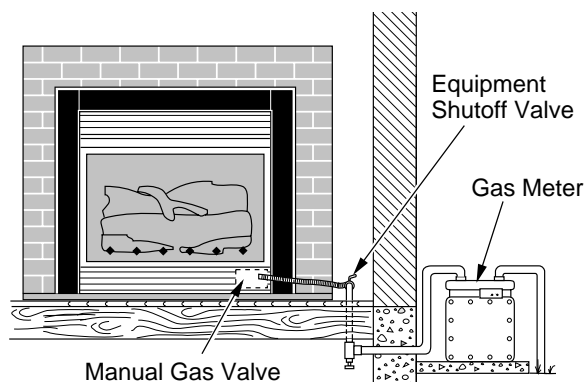
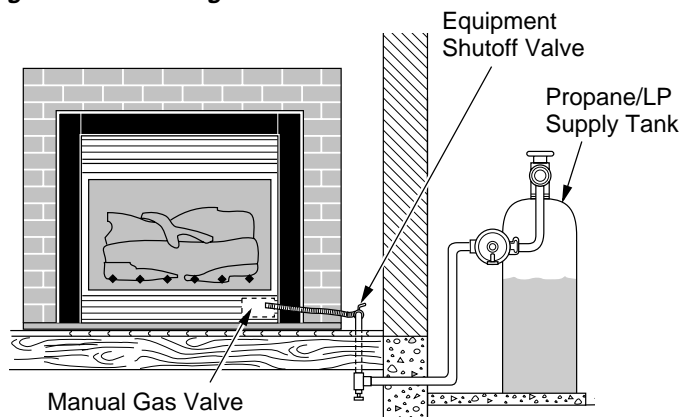

Figure 22 - Checking Gas Joints
Figure 23 - Checking Gas Joints
3. Check all joints from gas meter (natural gas) or propane/LP supply to equipment shutoff valve (see Figure 22 for natural gas, Figure 23 for propane/LP). Apply a noncorrosive leak detection fluid to all joints. Bubbles forming show a leak.
4. Check all joints from equipment shutoff valve to thermostat gas valve (see Figure 22). Apply a noncorrosive leak detection fluid to all joints. Bubbles forming show a leak.